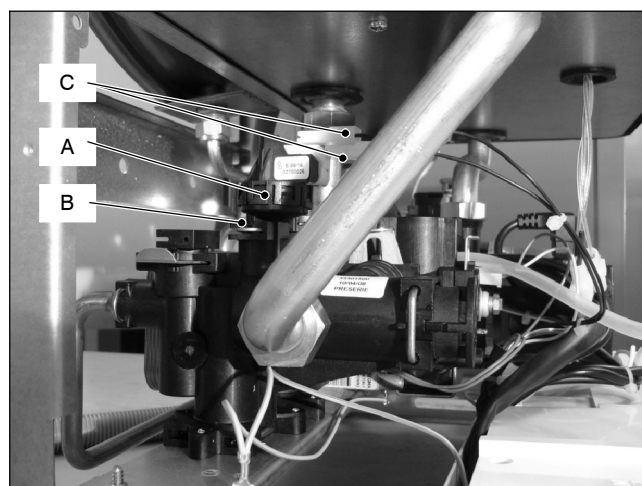

Fig. 3
- 2 Remove the fixing spring B (Fig. 3) and remove the primary circuit pressure switch A.
- 3 Disconnect the connectors C (Fig. 3).